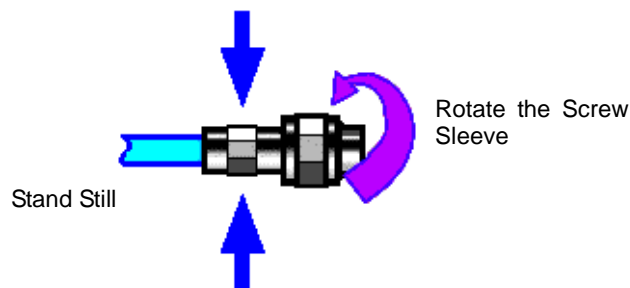

Figure 3.4 Connection Method
- Step 2** As shown in Figure 3.4, move the two connectors straightly together so that they can smoothly engage with each other. Rotate the connector sleeve (note not the connector itself) until it is tightened. There should be no relative rotational motion between the connectors during connecting;